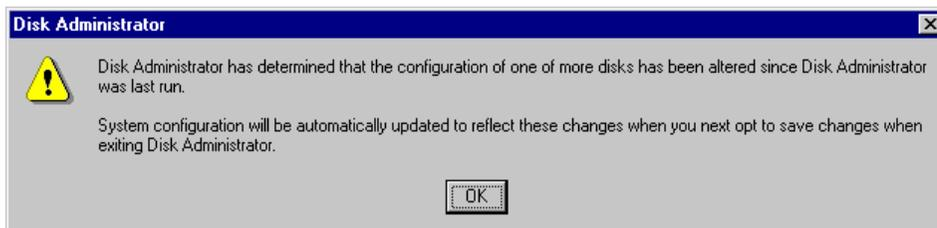

Figure 1-19 Disk Administrator change warning
- Select **Start, Program, Administrative Tool** and **Disk Administrator**, and the information appears, as shown in Figure 1-19.